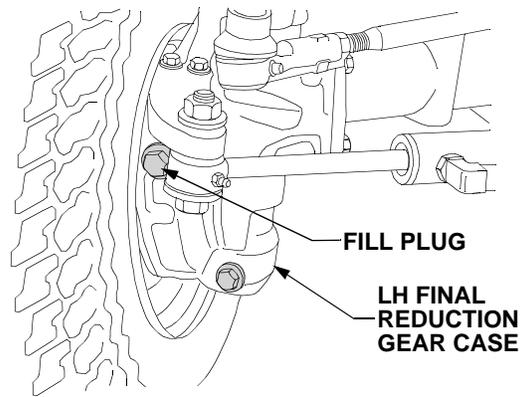

Figure 48
- Locate the fill plugs approximately midway up on the rear of the *right* and *left* gear cases. See Figure 48.